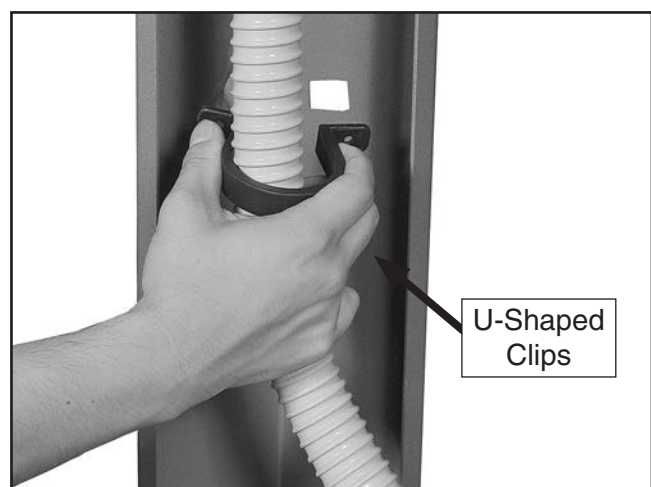

Figure 16. Securing vacuum hose to stand legs.
16. Secure vacuum hose inside upper and lower stand legs with (2) U-shaped clips (see **Figure 16**).